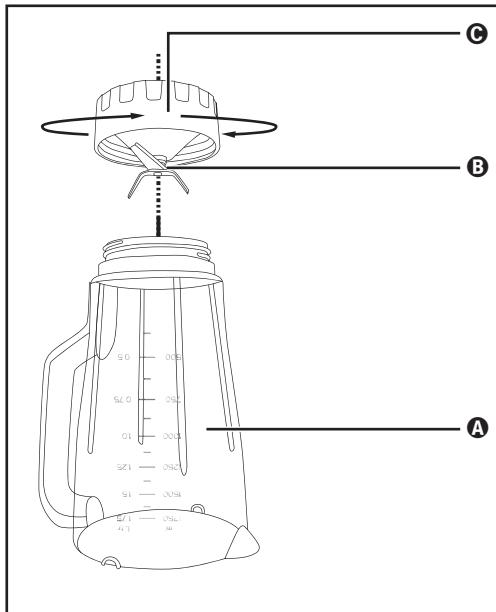

Fig. 3
- Turn the appliance upside down and turn the lower plastic part **C** of the blender ③ anticlockwise so that it can be removed from the upper plastic part **A** of the blender ③ (see fig. 3).